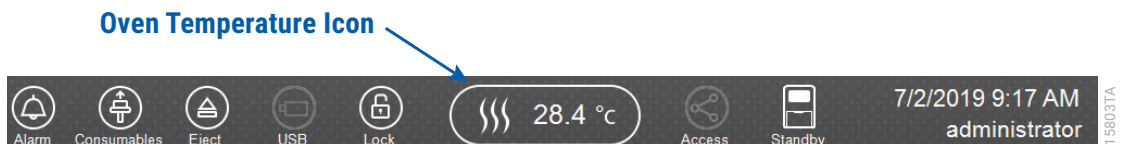

Figure 32. Preheating Oven.
2. Select the **Oven Temperature** icon in the Header on the 'Main Menu' screen, as shown in Figure 32, to start preheating the oven temperature to 60°C. The temperature displayed will change as the temperature of the oven increases. When 60°C is reached, a check mark will appear adjacent to the temperature.